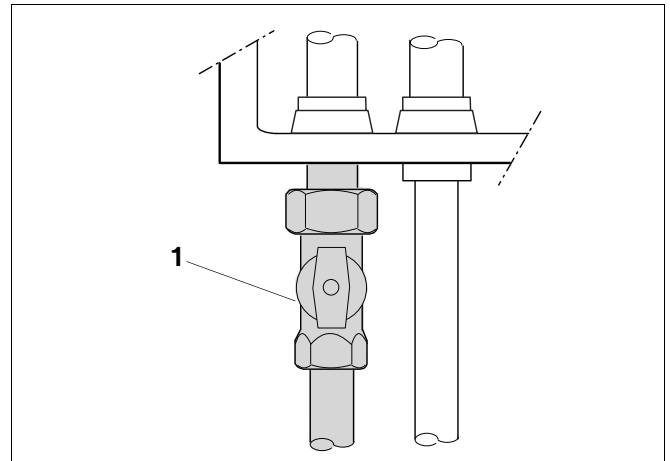

Fig. 8 Making the gas connection
- Connect the gas pipe to the gas cock (fig. 8, pos. 1) so that it is free from any strain.